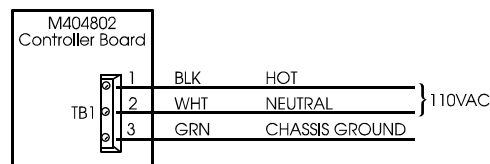

Figure 2-12. Visibility controller AC wiring.
2. Terminate the AC power cable to TB1 on the controller board as shown in **Figure 2-12**.